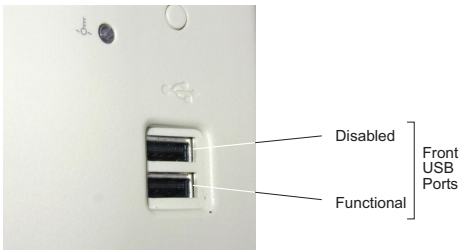

Figure 9: Typical Front USB Interface
5. If your system motherboard has only one 9-Pin USB connector and it is connected to the front USB ports (Figure 9), disconnect the front USB port cable from the system motherboard USB connector (refer to your system motherboard manufacturer's documentation for further information).
NOTE: Connecting the DE110 to the system motherboard's only USB connector will disable one of the front USB ports (if applicable). Only the lower (or second) USB port will still function while the DE110 is installed (Figure 9).